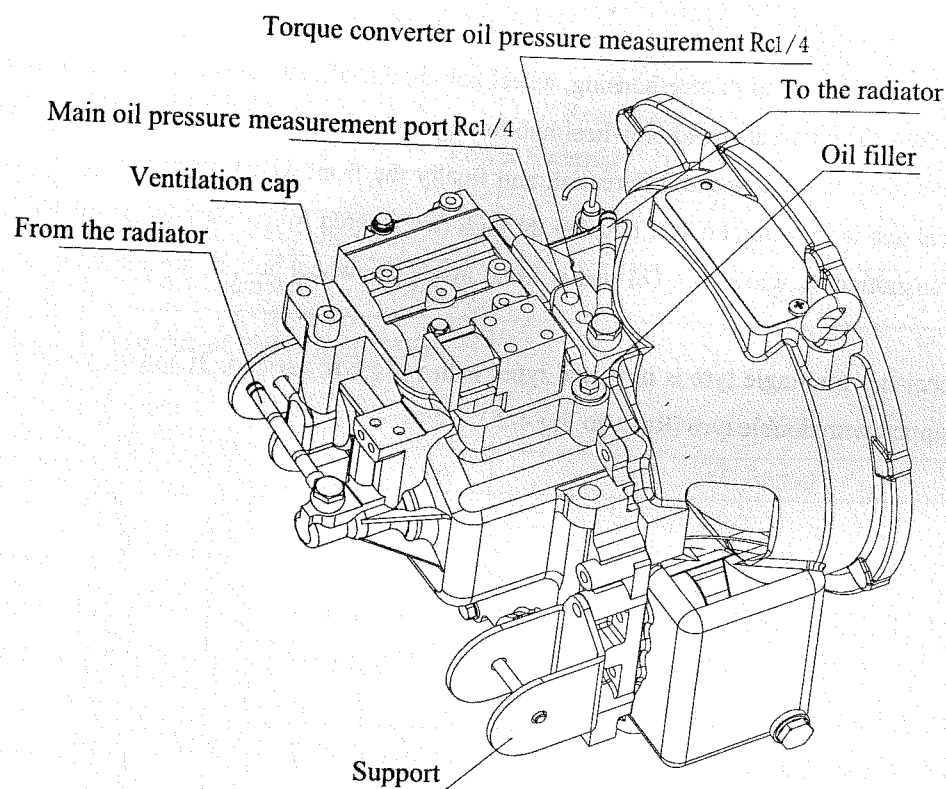

Figure 1
3.3.1 The main oil pressure of the gearbox is 1.1 MPa~1.4MPa, the oil inlet pressure of the torque converter is 0.4MPa~0.6MPa, and the oil pressure is 0.1MPa~0.3MPa. The connecting position of the pressure gauge is shown in Figure 1.